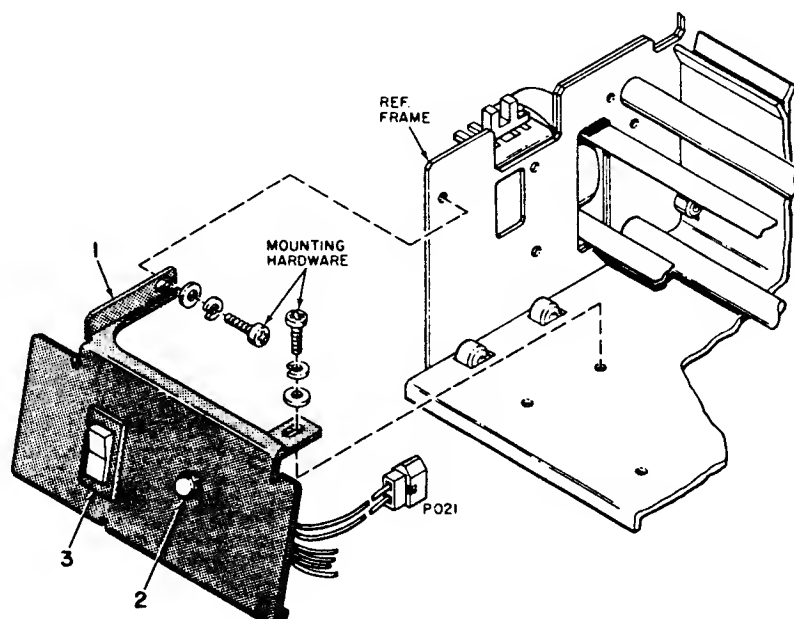

Figure 3-8F. CONTROL PANEL ASSEMBLY
3.14 CONTROL PANEL ASSEMBLY (Figure 3-8F)